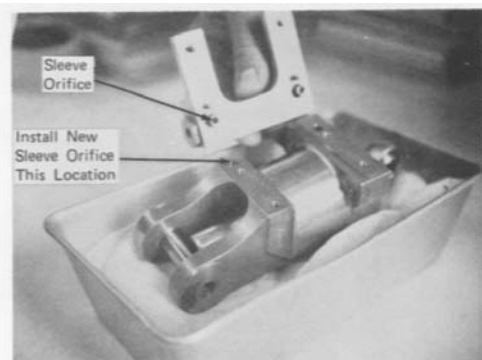

Figure 2
- c. Remove plug from reservoir end, remove the four reservoir retaining bolts, and lift reservoir from the damper housing. The position as described in paragraph (b) should be maintained so as not to allow air to enter the piston cavity. Oil loss from the reservoir will be replaced on assembly. It should be noted that discoloration of the silicone oil is common and should be disregarded. See Figure 2.
- d. After removal of the reservoir housing, the (2) orifice sleeves will be exposed. They should be carefully removed by hand along with the O-ring. The new orifice sleeve and O-ring should be flushed with silicone oil and carefully installed in the housing assembly. The orifice sleeve should be topped off with silicone oil.